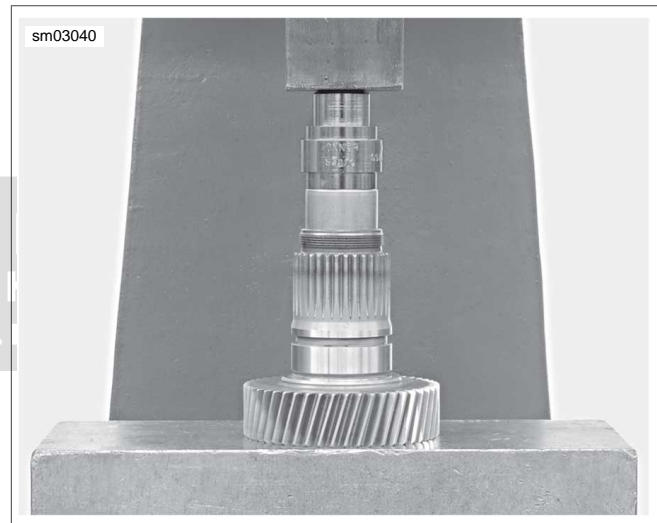

Figure 6-39. Installing Clutch Side Needle Bearing in Main Drive Gear
3. See Figure 6-39. Install clutch side needle bearing using an arbor press and the 0.400 in. step end of tool as shown. Press until tool contacts gear.